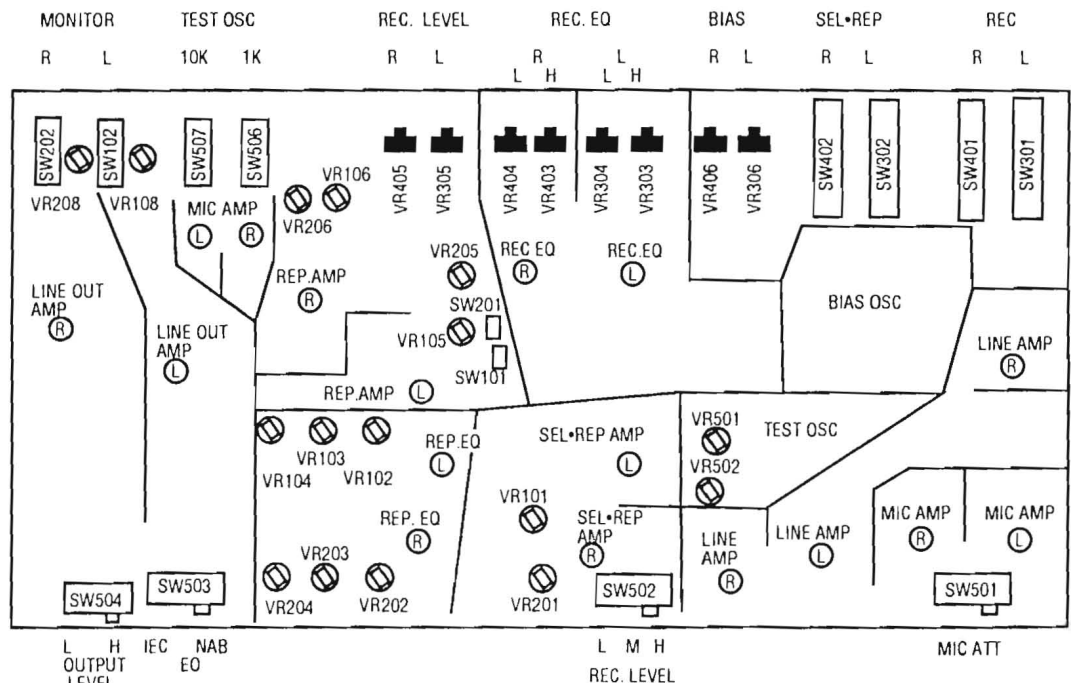

Figure 7-1
3. Adjust VR502 on the REC/REP AMP PCB Assembly (see Figure 7-1) so that the VU meter indicates 0 VU. Perform the same adjustment to the CH2 REC/REP AMP PCB Assembly.
(see Figure 7-1) so that